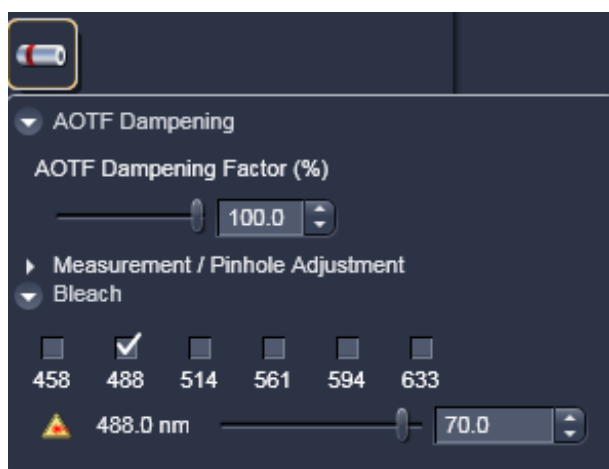

Fig. 9-28 Bleach panel
- Press the **Bleach** tab to display the laser control panel used for bleaching (Fig. 9-28). Press again to close the panel.